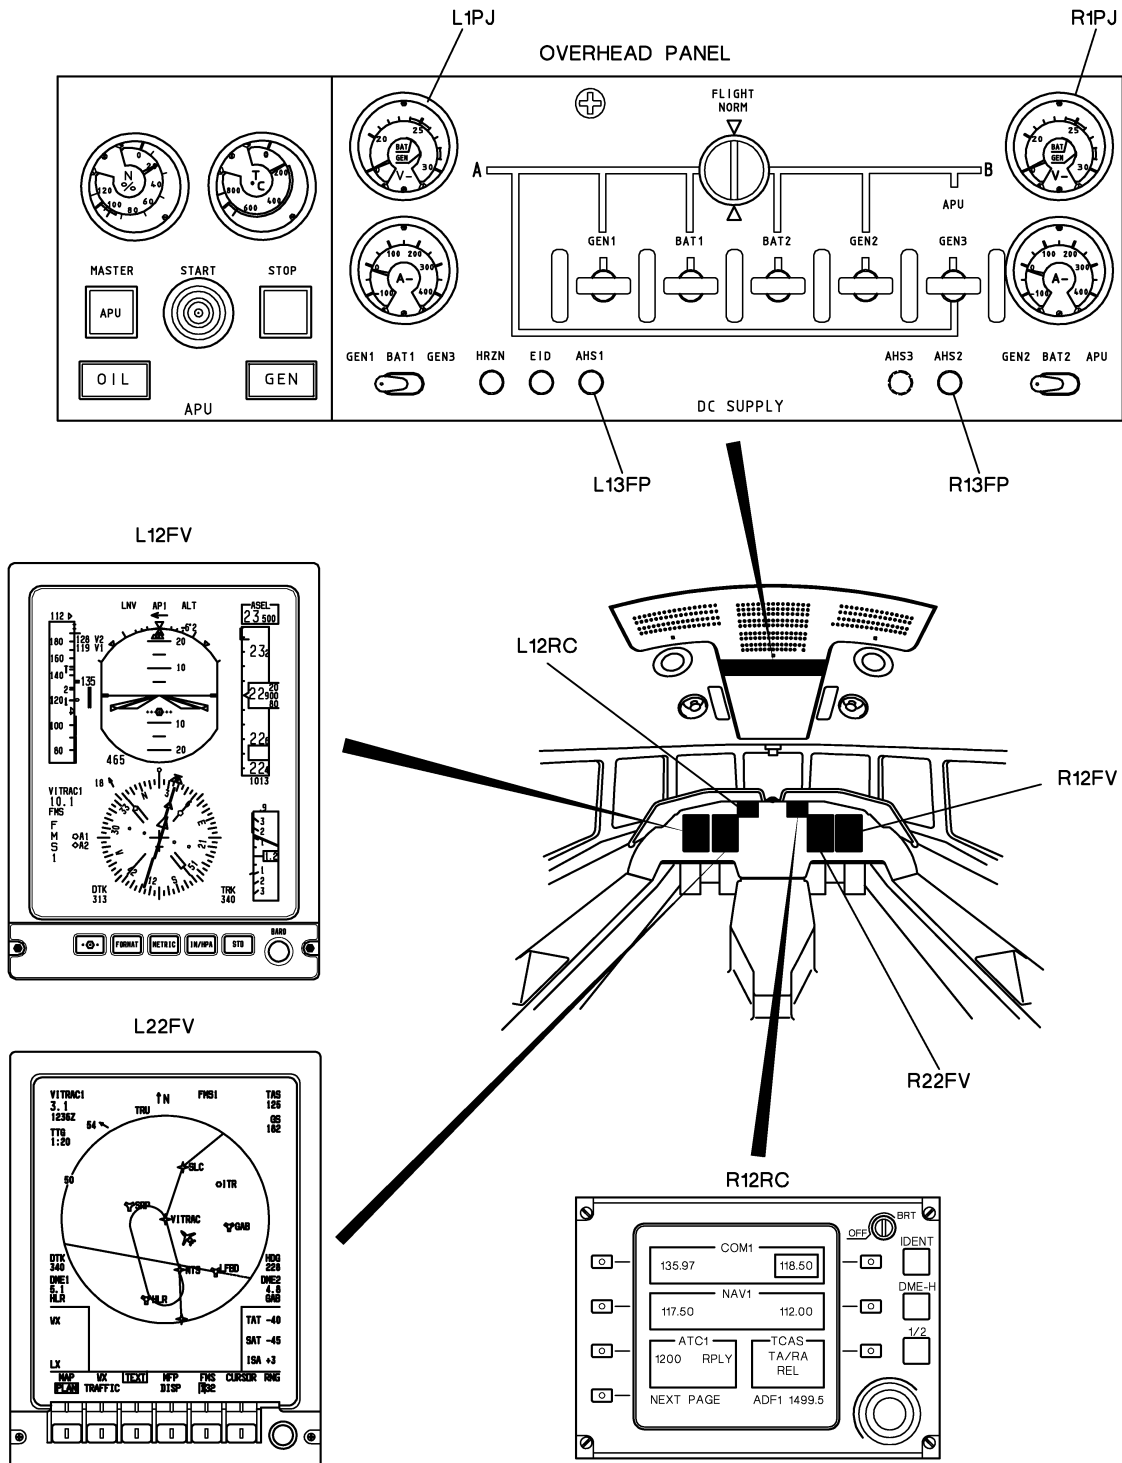

Figure 1: LOCATION OF COCKPIT CONTROLS
- B. Set "BRT OFF" knob (1) of RTU 1 and RTU 2 (**L12RC**)/(**R12RC**) to "OFF".
- (1) In nose cone (**210A**), connect the electrical cable from IRS 1 and IRS 2 batteries (**L12FP**)/(**R12FP**).
- (2) Engage the following circuit breakers:
- (3) Perform a test of IRS 1 and IRS 2 batteries (**fig. 1**).